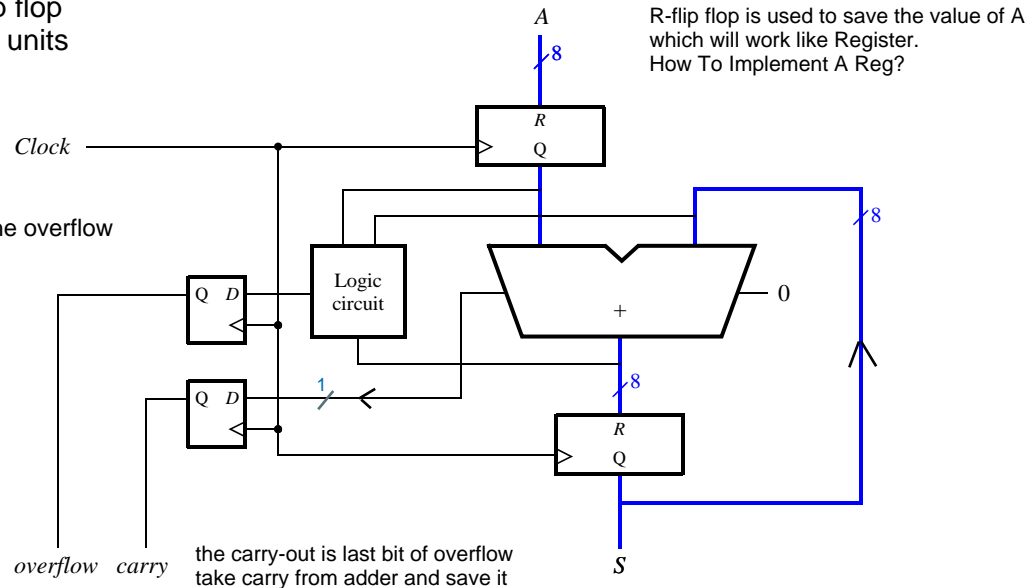

Figure 2: An eight-bit accumulator circuit.
Use this construct to implement a circuit shown in Figure 2. This circuit, which is often called an *accumulator*, is used to add the value of an input A to itself repeatedly. The circuit includes a carry out from the adder, as well as an *overflow* output signal. If the input A is considered as a 2's-complement number, then *overflow* should be set to 1 in the case where the output sum produced does not represent a correct 2's-complement result.
1. Create a new Quartus® project. Write Verilog code that describes the circuit in Figure 2.